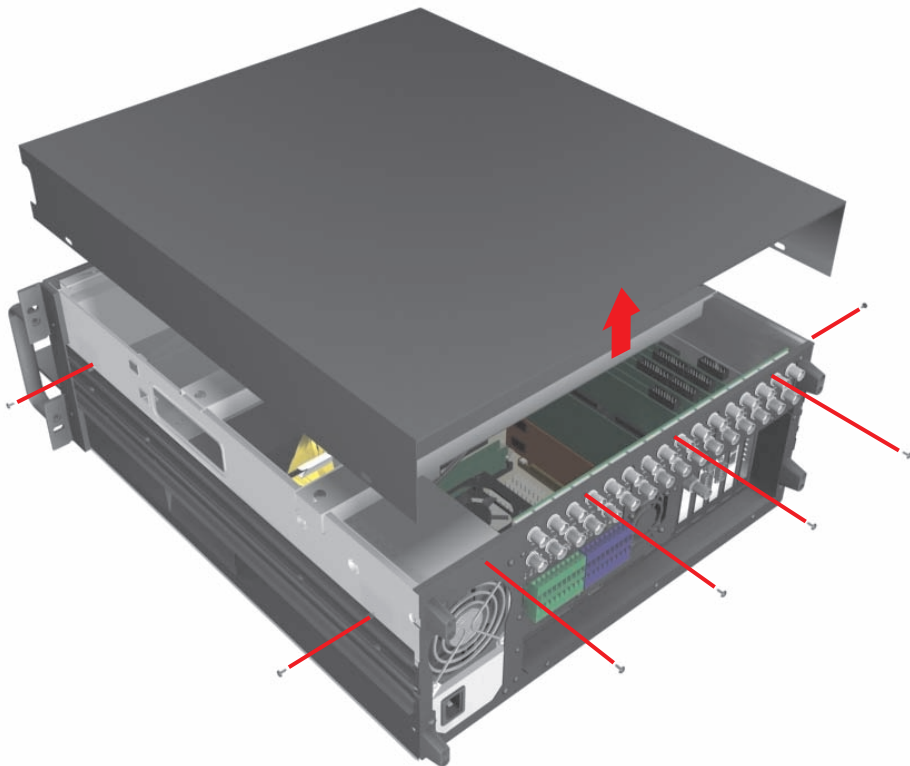

Figure 4. Removing Chassis Cover
- a. Remove the two top-most screws on the left and right side panels of the DX8000. Refer to Figure 4.
- b. Remove the four silver screws fastening the cover to the rear of the unit. These screws are the ones closest to the top of the unit. Refer to Figure 4.